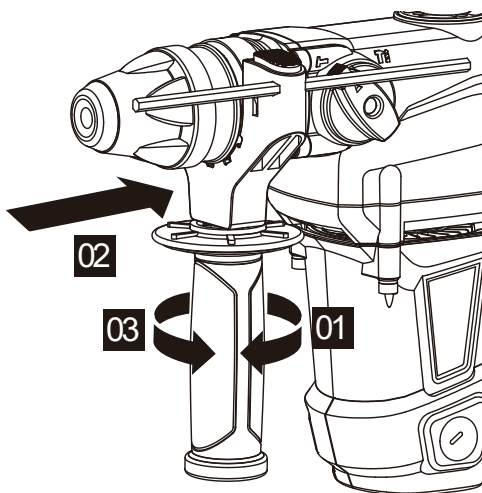

Figure 1
1. FITTING THE AUXILIARY HANDLE (SEE FIG. 1)